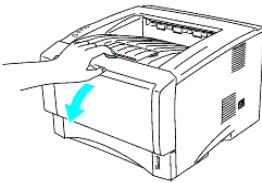

Fig 1
1. Hold the cover release button and pull the front cover open. (Fig 1)